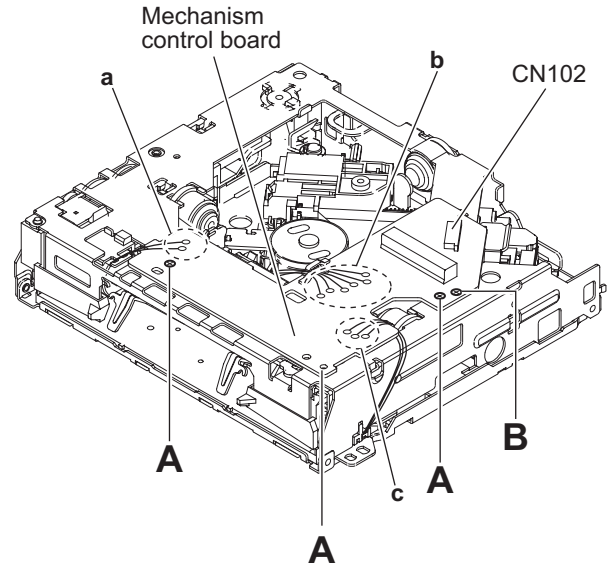

Fig.1
#### 3.2.1 Removing the MECHANISM CONTROL BOARD assembly (See Fig.1 and 2)
- (1) From the bottom side of CD MECHANISM assembly, remove the solders from the soldered sections (**a**, **b** and **c**) on the MECHANISM CONTROL BOARD assembly. (See Fig.1.)
- (2) Remove the three screws **A** and one screw **B** attaching the MECHANISM CONTROL BOARD assembly. (See Fig.1.)